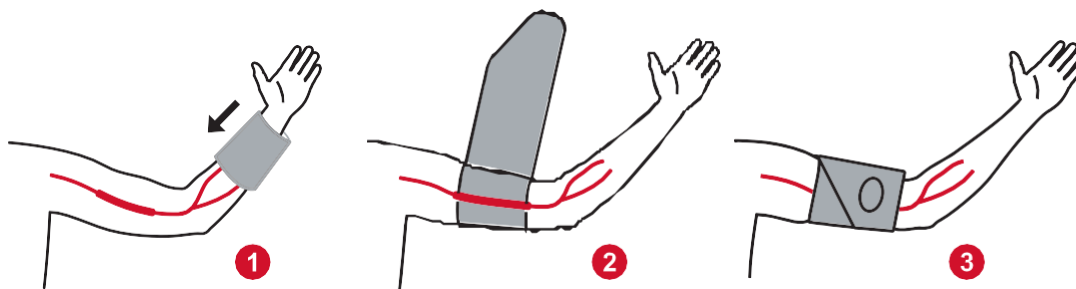

Figure 5: Instructions for Applying the ABPM Cuff
2. From the **Available Templates** dialog box (Figure 5), select the template name, and then click **Open**. The form automatically populates with the template's settings.